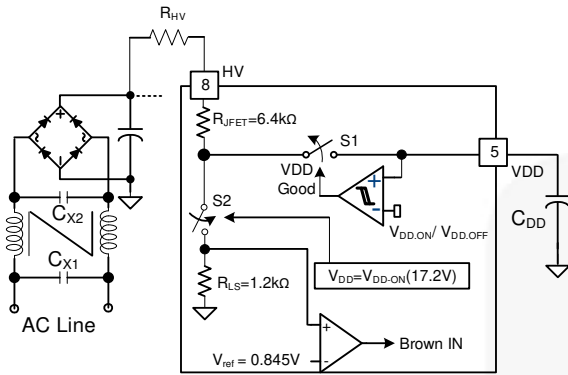
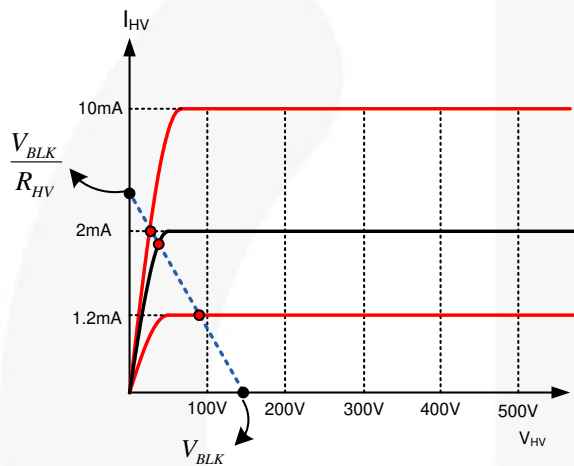

Figure 43. HV Startup Circuit
Figure 44. Characteristics of HV pin
Figure 43 shows the high-voltage (HV) startup circuit. An Internal JFET provides a high voltage current source, whose characteristics are shown in Figure 44. To improve reliability and surge immunity, it is typical to use a R_{HV} resistor between the HV pin and the bulk capacitor voltage. The actual current flowing into the HV pin at a given bulk capacitor voltage and startup resistor value is determined by the intersection point of characteristics I-V line and the load line as shown in Figure 44.
During startup, the internal startup circuit is enabled and the bulk capacitor voltage supplies the current, I_{HV} , to charge the hold-up capacitor, C_{VDD} , through R_{HV} . When the V_{DD} voltage reaches V_{DD_ON} , the sampling circuit shown in Figure 43 is turned on for t_{HV_DET} (100 μ s) to sample the bulk capacitor voltage. Voltage across R_{LS} is compared with reference which generates a signal to start switching. If brown-in condition is not detected within this time, switching does not start. Equation (9) can be used to program the brown-In of the system. If line voltage is lower than the programmed brown-In voltage, FAN602L goes in auto-restart mode.